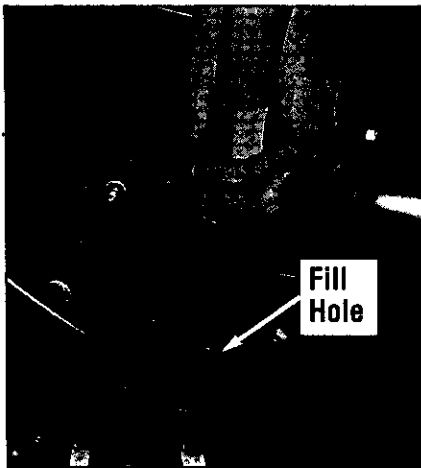

Figure 4-5: Checking the transmission gear oil level.
4. Use a flashlight to look down into the filler/check plug hole. See Figure 4-5. Note the drive shaft on one side of the hole. If the gear oil level is correct, it should be halfway up the sides of the drive shaft. If topping off is needed, follow the instructions below.